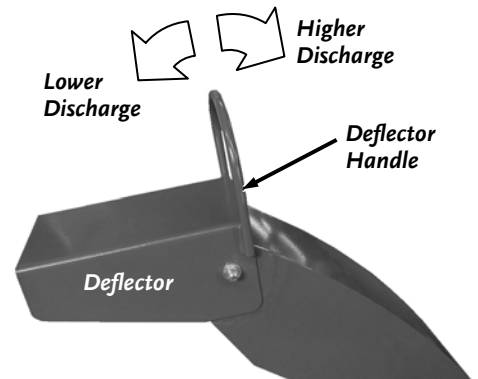

Figure 68
1. Grab the Deflector Handle and rotate the Deflector to the desired discharge position (**Figure 68**).